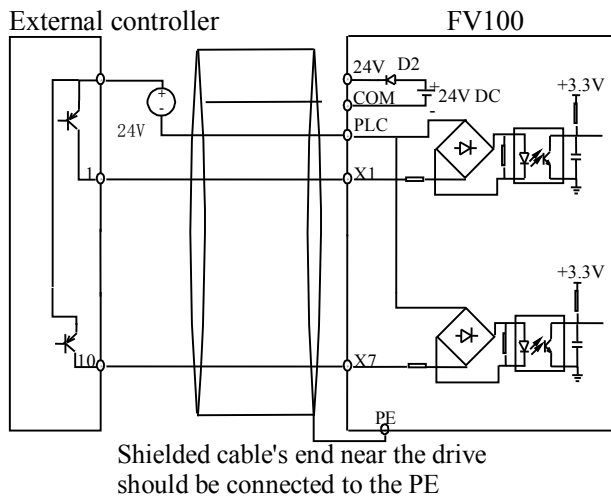

Fig 4-12 Use external power supply for drain connection
- 4) Use external power supply for drain connection (Make sure the PLC and 24V terminal is disconnected). As shown in the fig 4-12